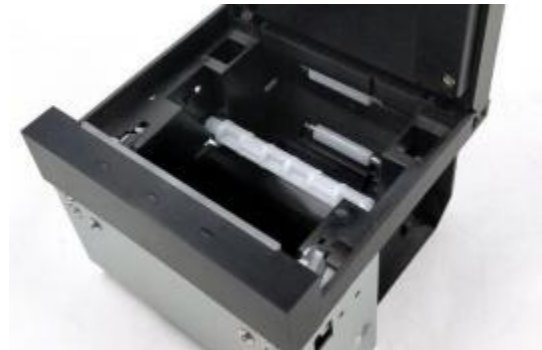

Fig 2: Positioning of the roll spindle
5) When using a 58mm paper roll, the 58 limited must be used, and the corresponding slot must be attached as shown in Figure 1 on the right; when using an 80mm paper roll (the paper will be adjusted to the uppermost position), you can choose to use the threading spindle or not, and the position of the threading spindle's mounting slot is as shown in Figure 2 on the right.